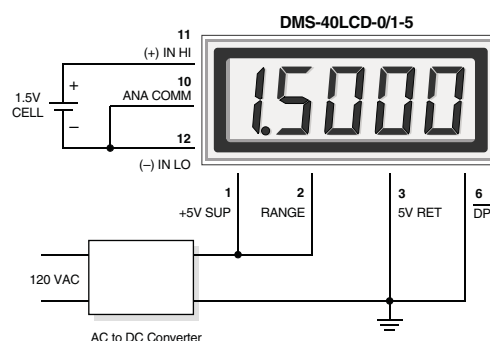
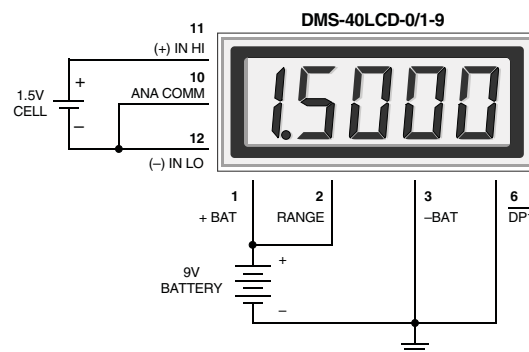

**Figure 5. Floating Input Measurements (5V-Powered Models)**
**Figure 6. Floating Input Measurements (9V-Powered Models)**
- 4. Floating Signal Source Measurements:** Floating signals can be measured using the circuits shown in Figures 5 and 6. Figure 5 uses a 5V-powered meter. Figure 6 uses a 9V-powered meter. Both figures show a DMS-40LCD-0/1 with pin 2 tied to pin 1 yielding a  $\pm 2V$  input range. Connecting pin 10 (ANALOG COMMON) to (-) INPUT LO (pin 12) provides the reference point for the meter's input.